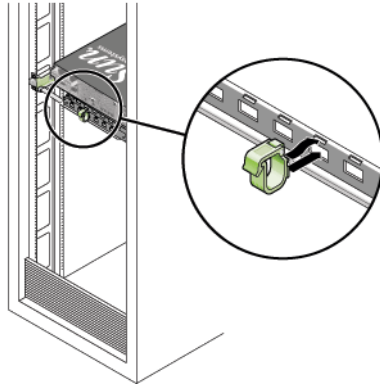

FIGURE 2-7 Installing CMA Cable Hangers
6. Position the cable hangers in the appropriate mounting holes in the CMA and snap them into place (FIGURE 2-7).